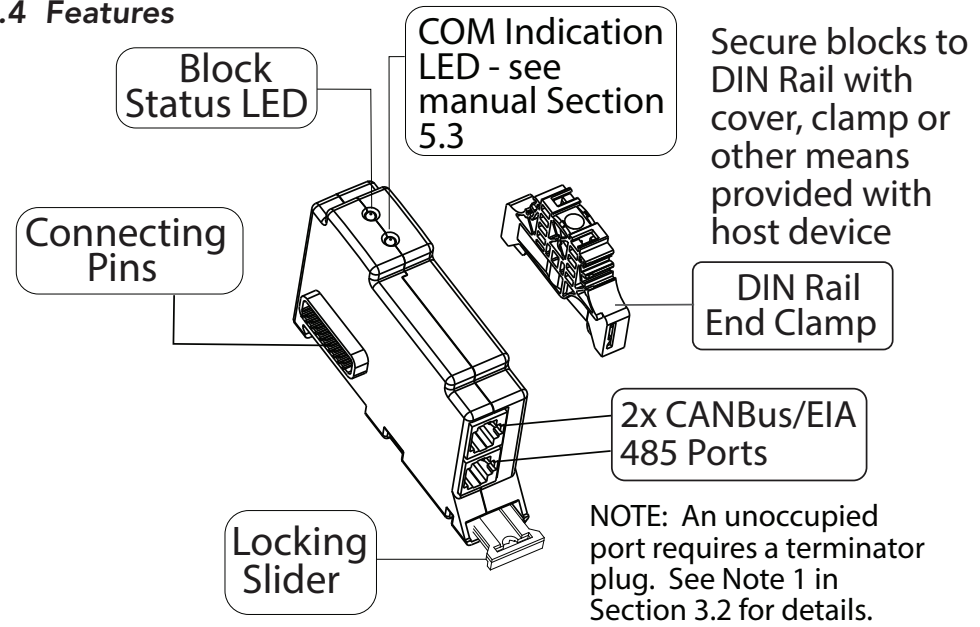
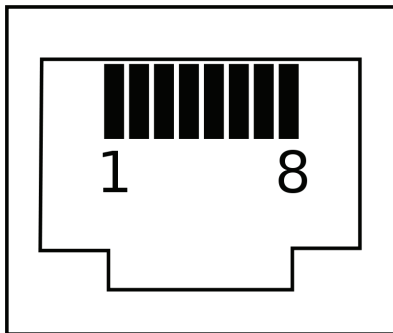

Figure 2-1. ReadyBMS Features
Figure 3-2. End of RJ-45 Plug - Conductor Profile
For CANBus-enabled batteries, use an 8-conductor straight-through RJ-45 cable (provided), and attach one end to one of the RJ-45 ports on the BMS Block - see Figure 2-1. Attach the other end to a CANBus port on the BMS-battery. All supported batteries conform to CAN pin configuration - for details, see Table 3-1 and Figure 3-2 in Section 3.3.
**NOTE 1:** *If the BMS Block is used with the only controller in the system, or it is at the end of a CANBus Network, the BMS Block CANBus-RJ-45 port not connected to the BMS-battery will require installation of a terminator plug (120 Ohm terminator resistor installed across the CANL and CANH wires). A BMS Block communications terminator plug is included - see Figure 2-1 in Features Section 2.4. For any BMS-battery side CANBus termination requirement, refer to your third-party BMS-battery manufacturer's documentation.*
All *currently* supported batteries conform to CAN pin configuration. For an up to date list of battery storage products supported by the ReadyBMS, go to www.morningstarcorp.com. CANBus-enabled batteries will require a cable assembly with the configuration seen in the Table 3-1 and Figure 3-2 below. Some BMS-battery systems may require a modified cable assembly - available separately.
See Figure 2-1 in Features Section 2.4, and Table 5-1 below.